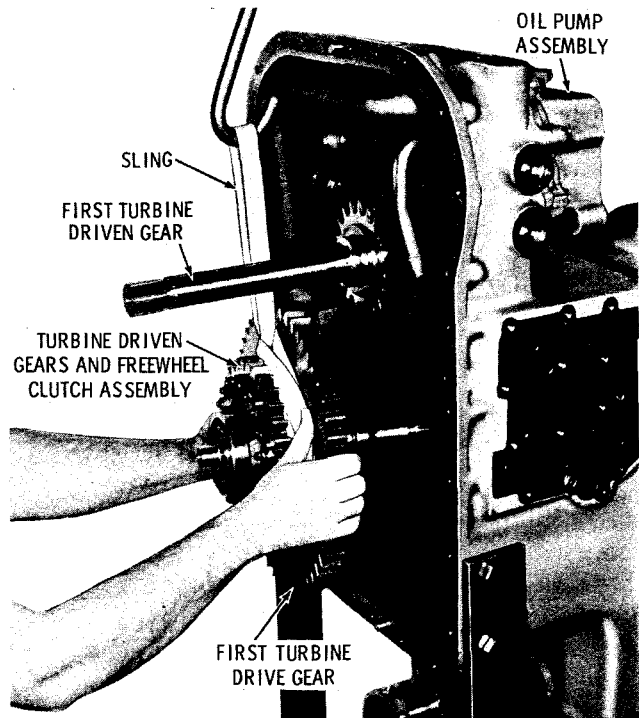

Fig. 7-27. Installing freewheel clutch and turbine driven gears
c. Freewheel Clutch. Using a sling and hoist, install the turbine-driven gears and freewheel clutch assembly (fig. 7-27) as